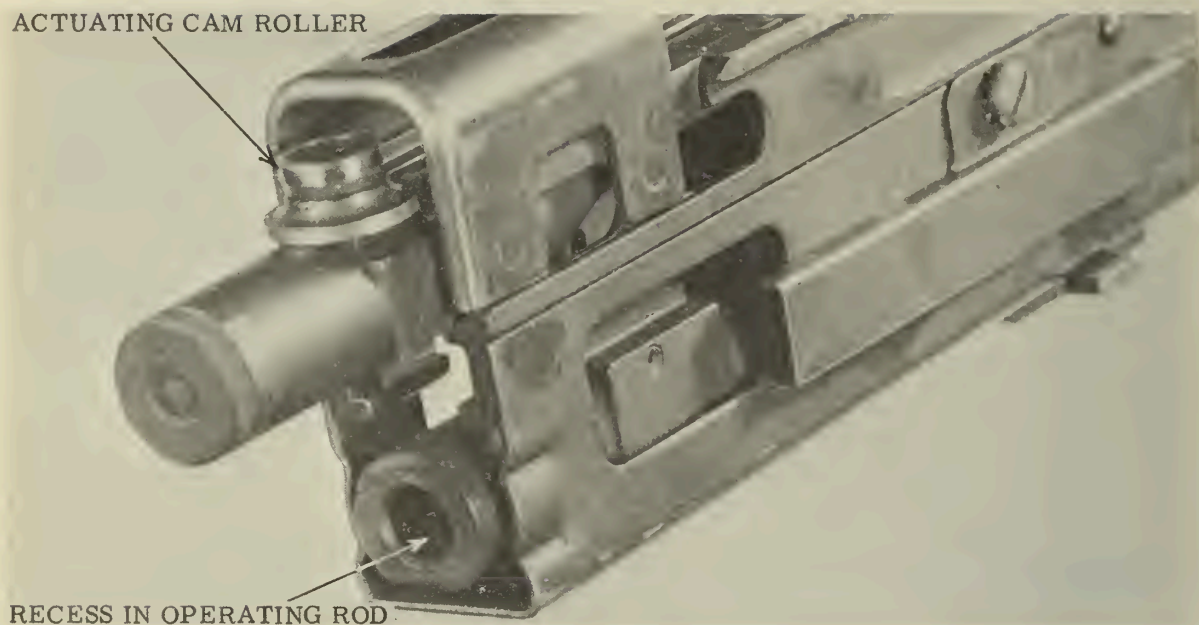

Figure 20. --Replacing the Bolt and Operating Rod.
(3) Align the locking lugs on the bolt with the guide rails on the receiver. Insert the operating rod and bolt into the receiver, ensuring that the actuating cam roller is upright. (See fig. 20.)